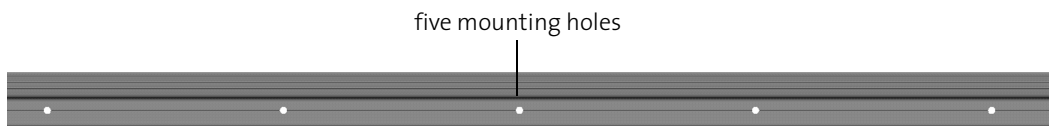

Figure 1-10 Front View of Wall Bracket
2. Remove the wall bracket taped to the back of the SMART Board, place it horizontally against the wall (creating an up-facing slot) and align the mounting holes to the marks previously made. Secure the bracket using the five drywall anchors and five screws provided (Figure 1-10).